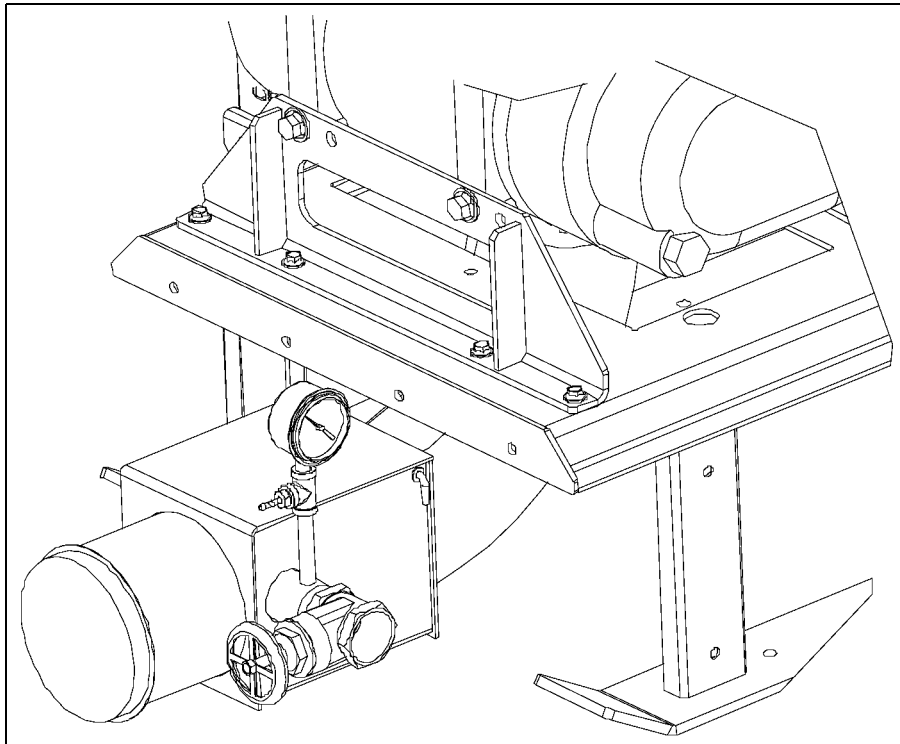

Figure 7K
- Remove 1/4" pipe plug in gate valve pipe. Install gauge assembly and attach air hose. *(See Figure 7K.)*